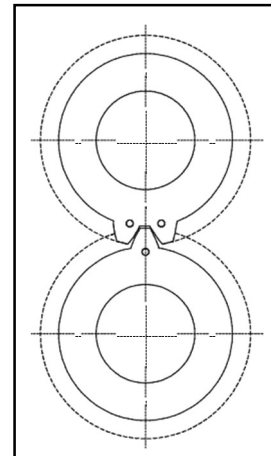

Figure 22
a) Fit timing gears to shafts - ensure marks are aligned as Figure 22. Fit rotors but do not fit rotor case or rotor retainers. Do not fit gear nuts (12) yet.